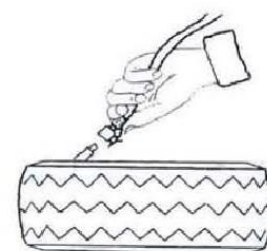

Fig 17
- 6) Continue inflating and check the air pressure frequently until to reach the required pressure. (Fig 17)